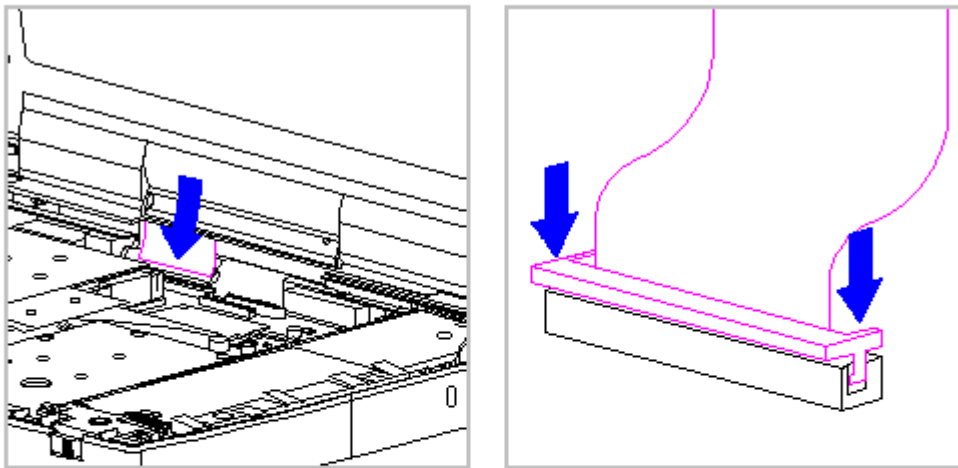

Figure 5-122. Connecting the Display Cable to the System Unit Module
32. While holding the end of the display cable inside the ZIF connector slide, press down both ends of the slide simultaneously to secure the cable in the ZIF connector (Figure 5-122).